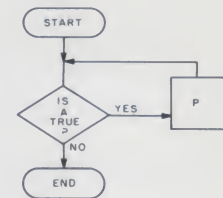

Fig. 2. Flowchart of DO-WHILE loop structure.
3. The DO-WHILE loop structure, i.e., DO P WHILE A where A is a condition and P is a program. Fig. 2 shows the logic of this structure. A program may consist of a single structure or any combination of structures, all of which belong to the limited set.